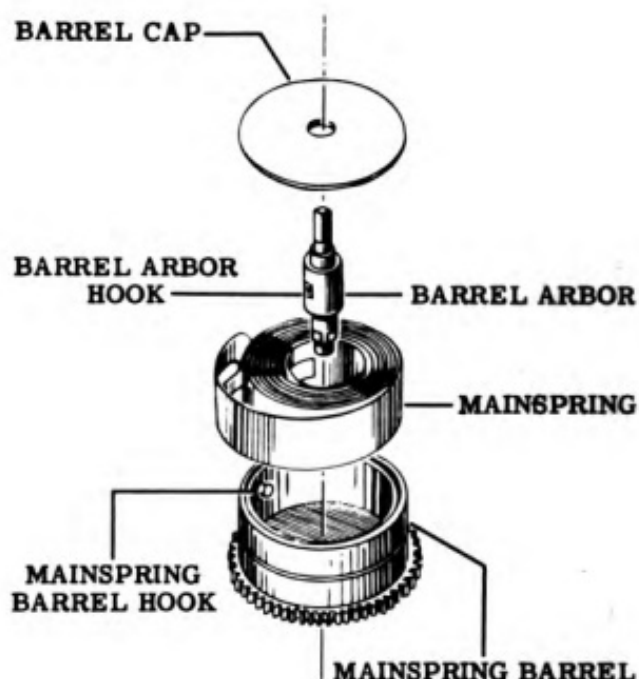

Figure 34
11. To remove the barrel cap, hold the barrel tightly in one hand and strongly hit the end of the barrel arbor farthest from the cap with a plastic- or wood-headed hammer. The shoulder on the arbor will transmit this force directly to the inside of the cap and force it out. See Fig. 34 for identification of the mainspring barrel components.